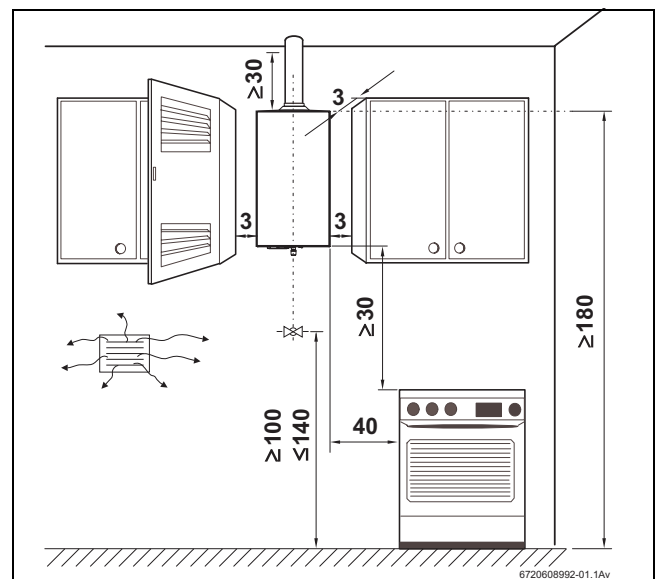

Fig. 4 Minimum clearances
- Install the appliance in accordance with the minimum installation clearances indicated in Fig. 4.